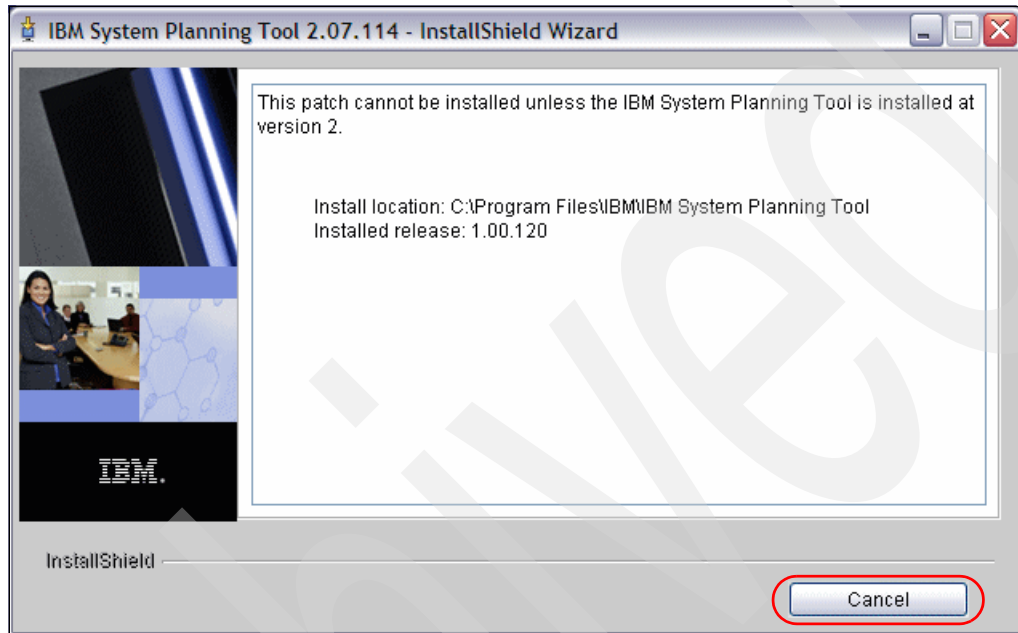

Figure A-22 Unable to install patch
- ▶ *If V1 is already installed*, the SPT splash window and initialization wizard message are displayed, and then the installation process halts, as shown in Figure A-22.